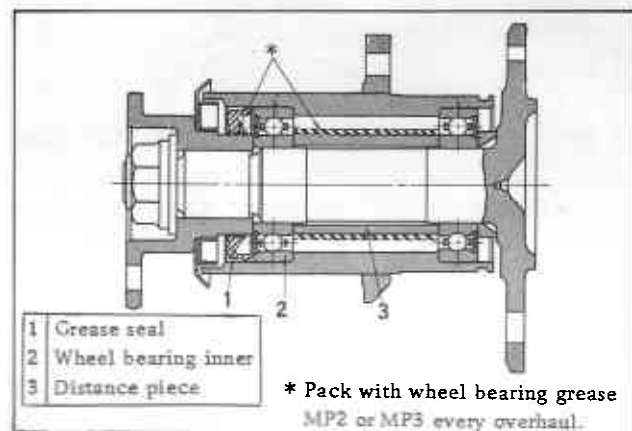

Fig. RA-19 Sectional view of rear axle
2. The wheel bearings are of the sealed type. When installing ensure that the sealed side of the outer bearing faces the wheel and that the sealed side of the inner bearing faces the differential (See Fig. RA-19).
Pack wheel bearings with MP2 or MP3 grease as shown Figure RA-19. Coat around the lip seal and into the wheel bearing.